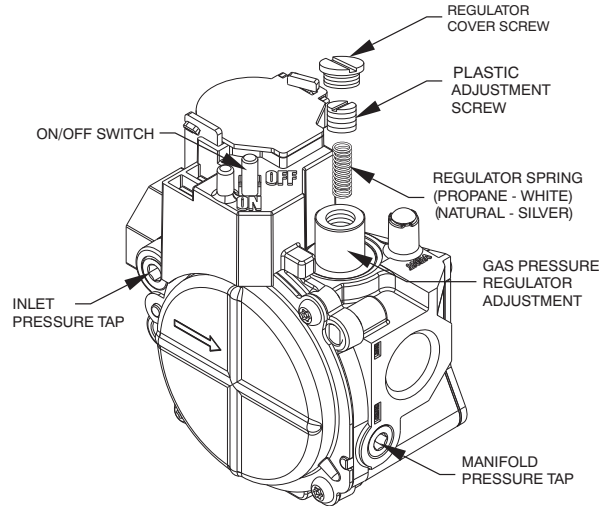

Fig. 15 – Single-Stage Gas Valve
1. Remove regulator cover screw over plastic adjustment screw on gas valve (See Fig. 15).
- Turn plastic adjustment screw clockwise to increase gas input, or turn plastic adjustment screw counterclockwise to decrease input (See Fig. 15). Manifold pressure must be between 3.2 and 3.8 IN. WC.
- Replace regulator cover screw on gas valve (See Fig. 15).